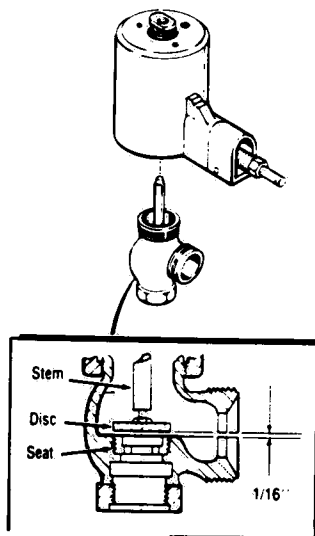

FIGURE 7-11 – Adjusting HI-LO Valve
1. Screw valve seat (21) into body, hex side down.
2. Replace stem and disc (20) in syphon (19) and screw bonnet onto body.
3. Position fork (9) on bottom plate (13). Insert pivot pin (10) and cotter pins.
4. Screw reinforcement (4) onto bellows and fasten to cover with two screws (2).
5. Set lower spring plate (8), spring (7), and top spring plate (6) in place. Make sure the lugs on the spring seat are properly positioned in the fork bearings.
6. Replace cover (1) and bellows (5), and secure cover with four screws (3).
7. Lower this entire assembly into position over the syphon, aligning the notches in the bottom plate with the lugs on the bonnet to allow the bottom plate to seat on the bonnet. Replace screw (2).
8. Turn adjusting screw (18) fully counterclockwise to remove all tension from the spring. Turn the stem protruding from the bellows to establish a clearance of 1/16 inch between seat and disc (Fig. 7-11). If valve was not removed from sterilizer, open side connection to see disc and seat.
10. Loosen nut (27) and back out screw (26) so that it does not contact adjusting fork (9). Turn adjusting screw (18) counterclockwise until minimum load, with no rattle, is obtained on spring.
11. Adjust screw (26) until it touches fork (9). Lock in place with nut (27).